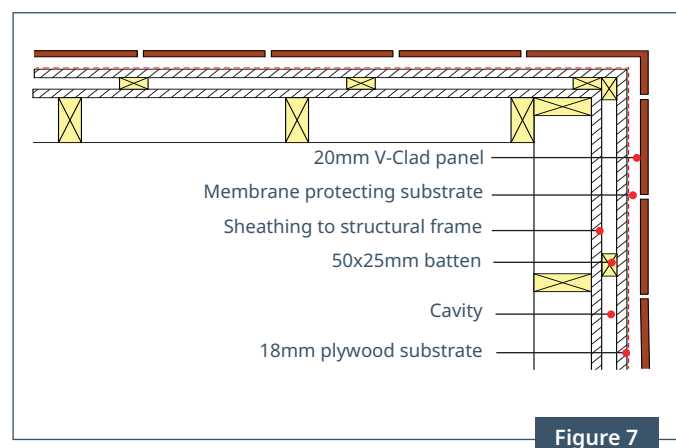

Figure 7
1. Panels must overlap and be sealed with adhesive or sealant to prevent the creation of a void in the area behind brick. See Figure 7.